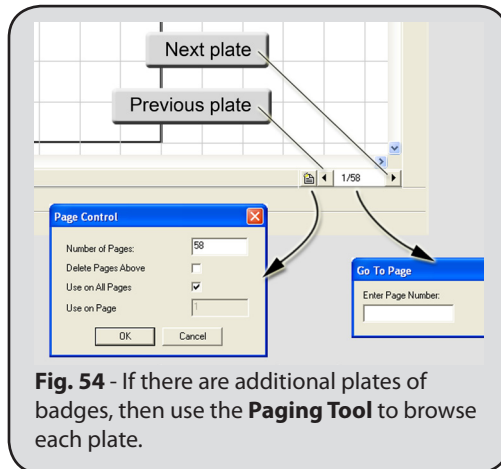

Fig. 54 - If there are additional plates of badges, then use the **Paging Tool** to browse each plate.
- If there are more badges than will fit on a single plate, the **Paging Tool** can be used to view the remaining badges. Click the **Forward** and **Back** navigation buttons to access the other badges (Fig. 54).